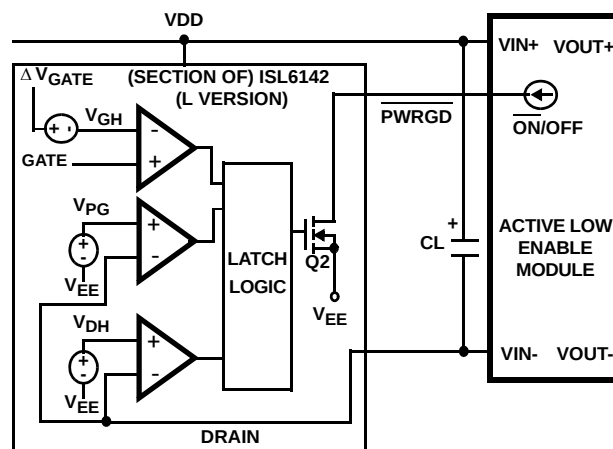

FIGURE 34. ACTIVE LOW ENABLE MODULE
**ISL6142** (L version; Figure 34): Under normal conditions (DRAIN voltage -  $V_{EE} < V_{PG}$ , and  $\Delta V_{GATE} - V_{GATE} < V_{GH}$ ) the Q2 DMOS will turn on, pulling  $\overline{PWRGD}$  low, enabling the module.
The Enable input often has a pull-up resistor or current source, or equivalent built in; care must be taken in the ISL6152 (H version) output that the given current will create a high enough input voltage (remember that current through the RPG 6.2k $\Omega$  resistor generates the high voltage level; (see Figure 34).